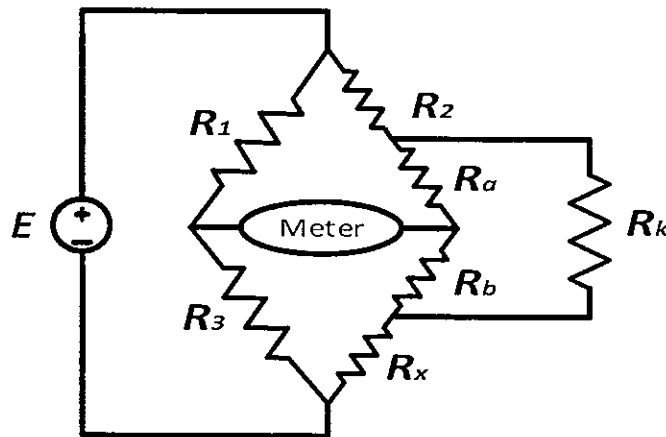

Figure 1.2
- (c) Calculate the value of R_x in Figure 1.2. if $R_a=1600 R_b$, $R_1=800 \Omega$ and $R_1=1.25 R_2$.